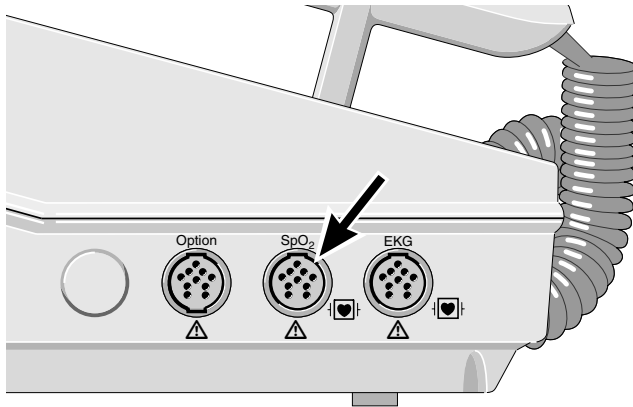

Figure 9-2. SpO₂ sensor connection
- * Connect the sensor to **CardioServ** (SpO₂ connection, Figure 9-2).